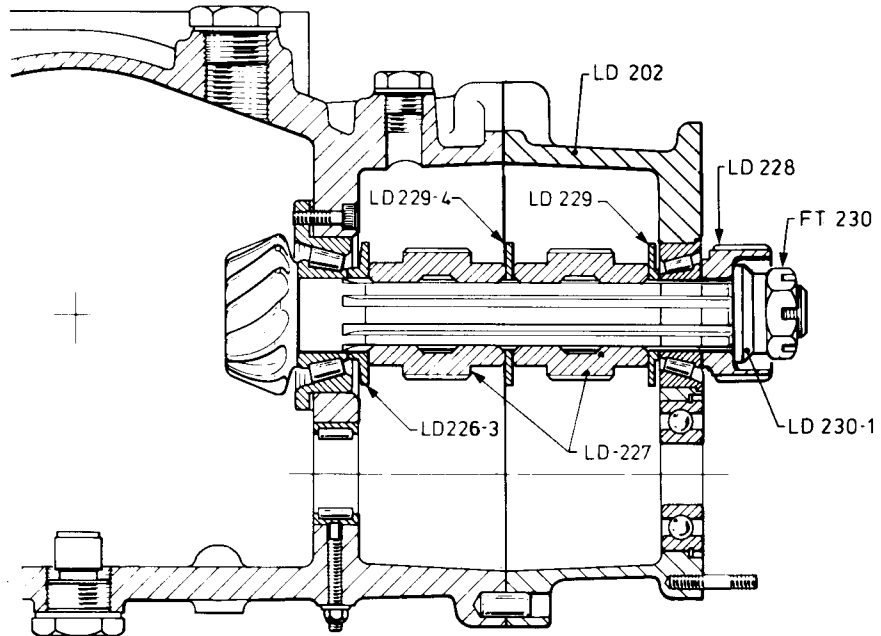

Fig. 6
a) Assemble pinion shaft into the bearings with the hubs and spacers as shown in Fig. 6 (4 speed) or Fig. 7 (5 speed).